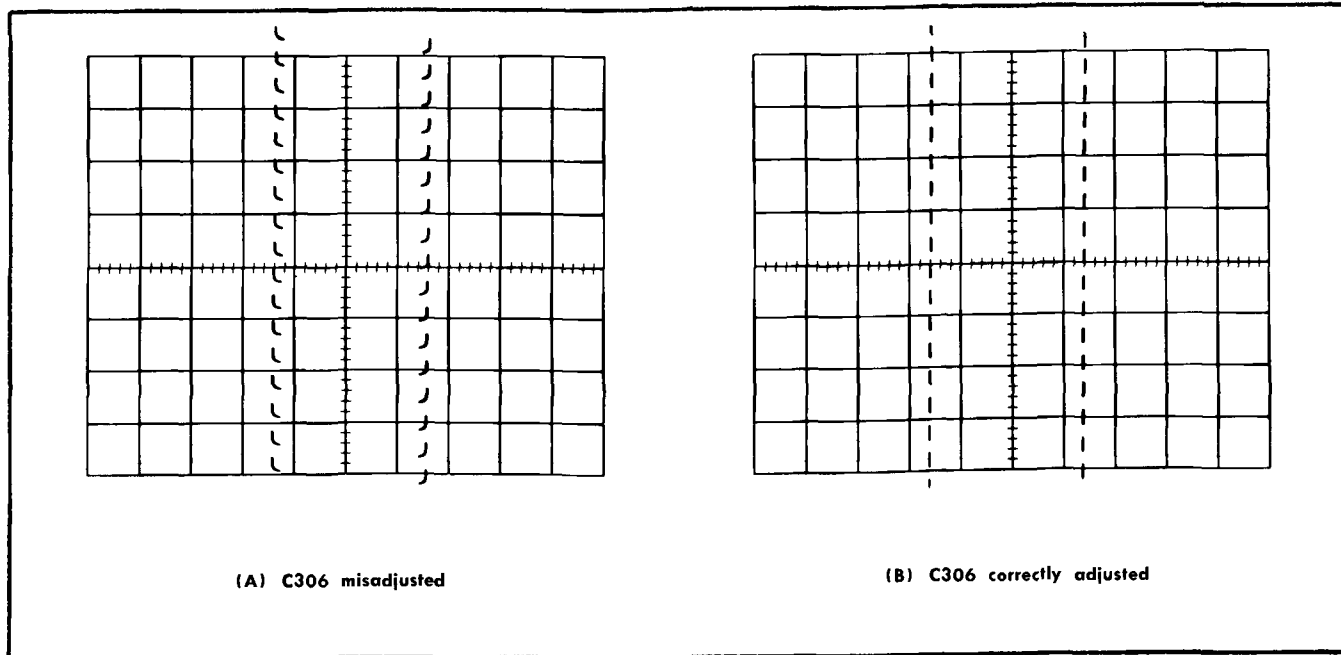

Fig. 5-4. Typical display, Horizontal Amplifier attenuator compensation check; 1 kHz square-wave input; SWEEP TIME/CM switch setting, 2 mSEC.
- g. Adjust the test oscilloscope Trigger Level control to obtain a stable display on the Type 503. The display should be similar to Fig. 5-4.